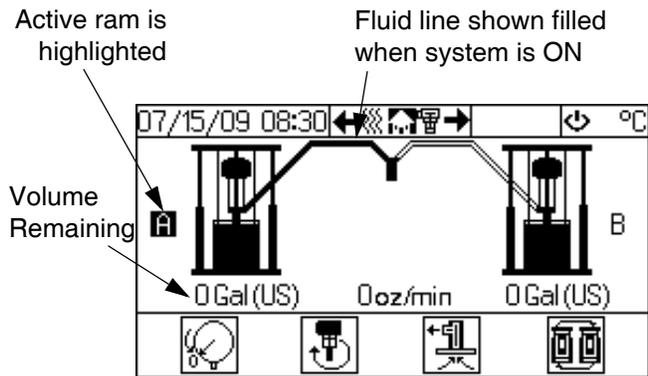

FIG. 10: Ram Operation Screen
- See FIG. 10. The Ram Operation screen displays which ram (A or B) is active and how much volume is remaining in each drum. The fluid line is shown filled indicating the system is on.